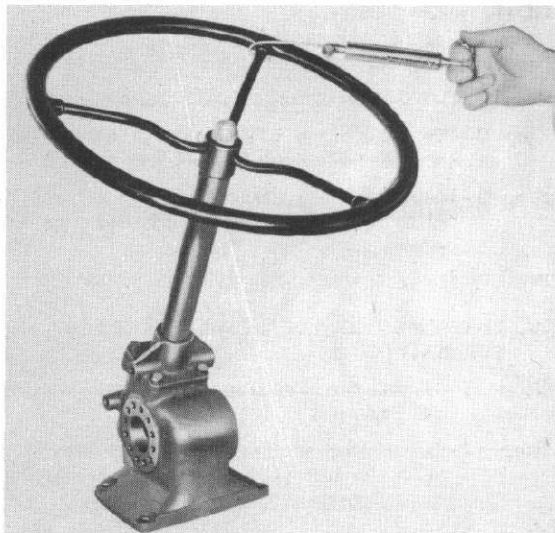

Fig. 5
b. With a spring scale as shown in Figure 5, check the amount of pull required to rotate the steering wheel through center or straight forward position. (Should be $1\frac{1}{2}$ lbs.)